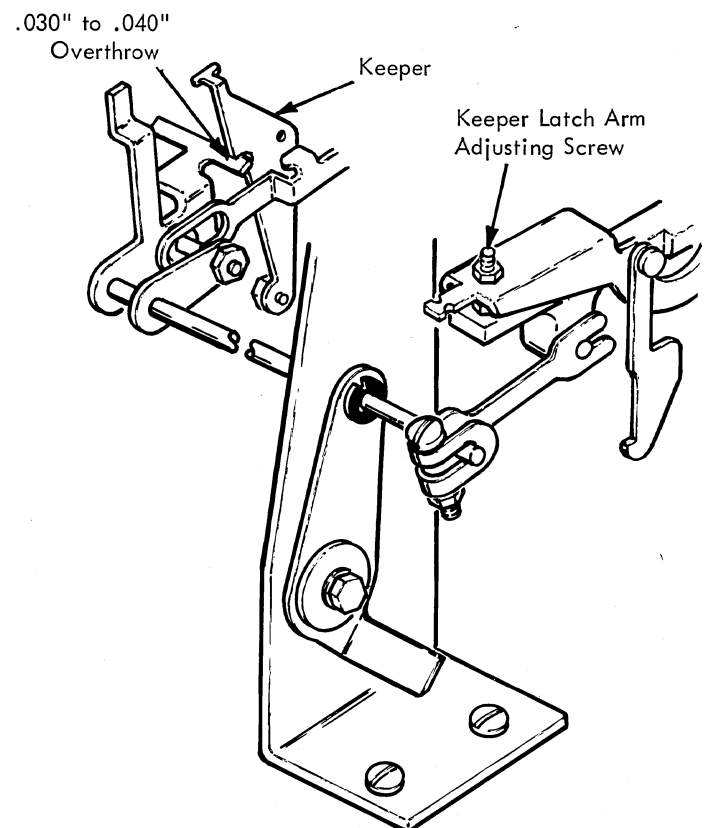

FIGURE 147.3 Clutch Latch Overthrow Adjustment
- b. Carrier Return Latch Arm Adjusting Screw (clutch latch overthrow) - With the carrier return cam on the high point, adjust the keeper latch arm adjusting screw (Fig. 147.3) so that the clutch latch will overthrow the latching surface of the keeper by .030" to .040". Be sure that the platen and feed rolls are installed and the index selector lever is in the double index position when checking this adjustment. NOTE: Contact assembly removed when making this adjustment.